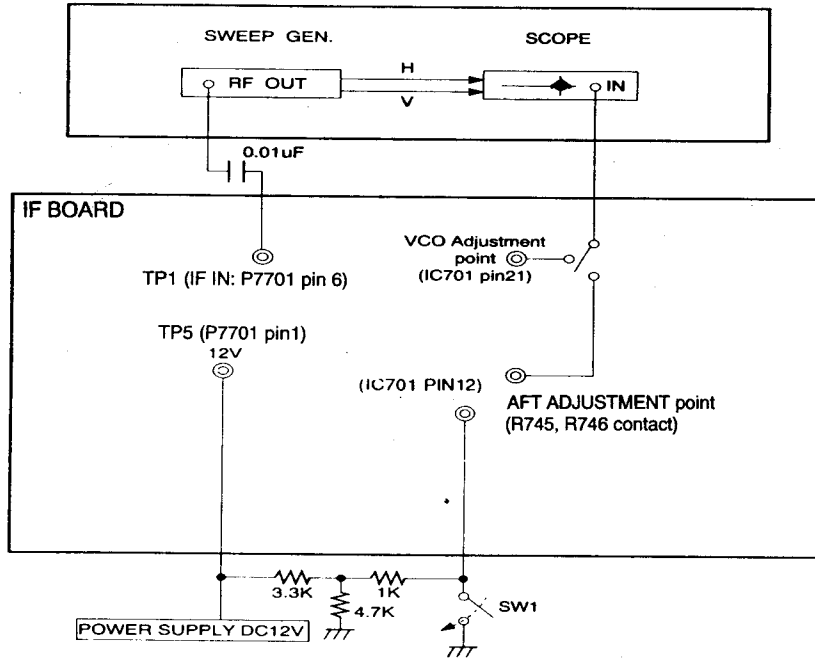

Fig 1. Connection Diagram of equipment
- Connect the measuring equipments to the set as shown Fig 1.